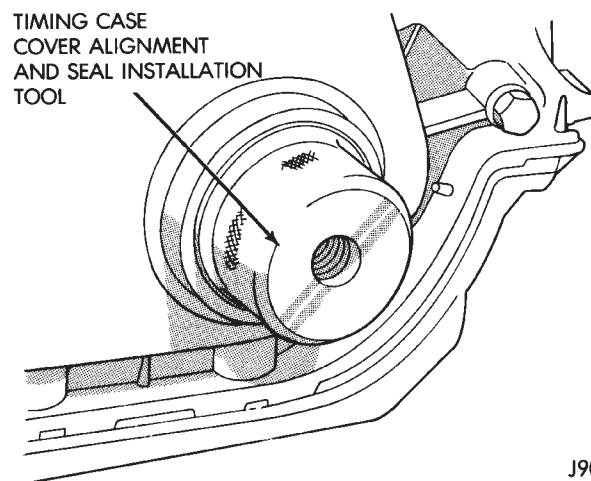

Fig. 42 Timing Case Cover Alignment and Seal Installation Tool 6139
- (1) Install a new crankshaft oil seal in the timing case cover. The open end of the seal should be toward the inside of the cover. Support the cover at the seal area while installing the seal. Force it into position with Seal Installation Tool 6139.
- (2) Position the gasket on the cylinder block.
- (3) Position the timing case cover on the oil pan gasket and the cylinder block.
- (4) Insert Timing Case Cover Alignment and Seal Installation Tool 6139 in the crankshaft opening in the cover (Fig. 42).